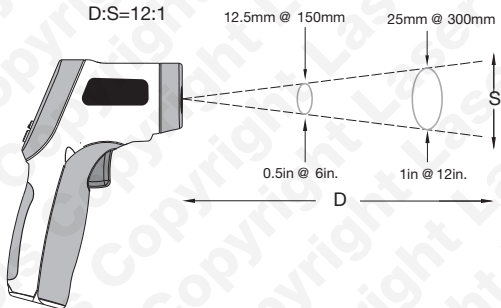

Figure 3
**Field of View:** Refer to **Figure 3**, ensure that the target is larger than the spot size (S); the smaller the target, the closer you should be to it. When accuracy is critical, make sure the target is at least twice as large as the spot size.